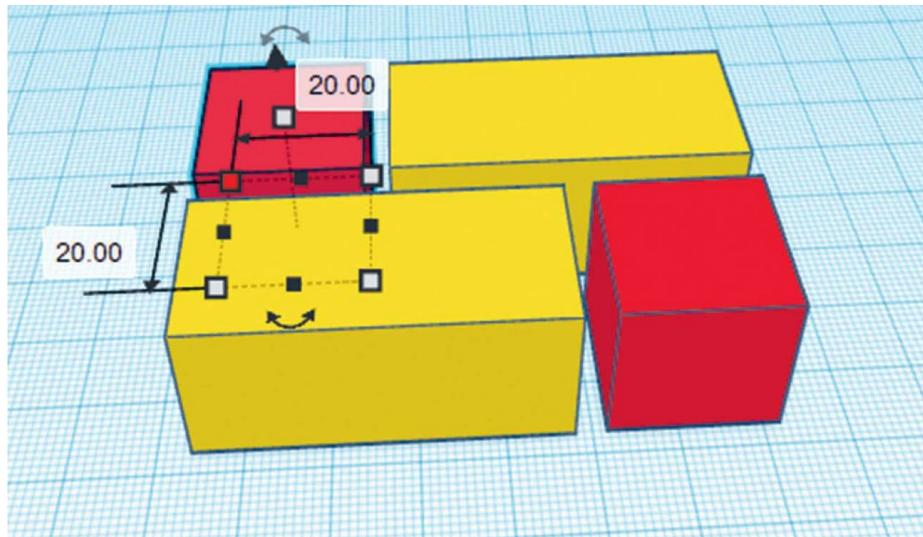

FIG. 2: Create four boxes for the puzzle shapes.
2. Then make a $44 \text{ mm} \times 20 \text{ mm}$ box and make a copy of it. We now have two larger puzzle pieces as well. Fig. 2 shows all four pieces.